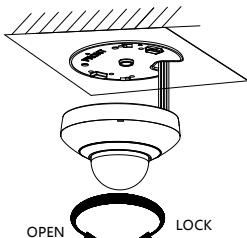

Figure 2-7 Fix the Camera
5. Align the camera with the installation plate, and rotate the camera clockwise to fix it, as shown in Figure 2-7.